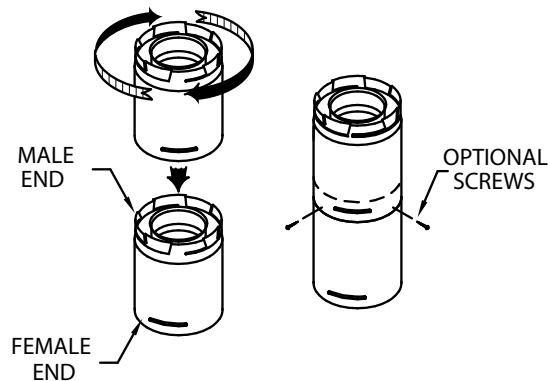
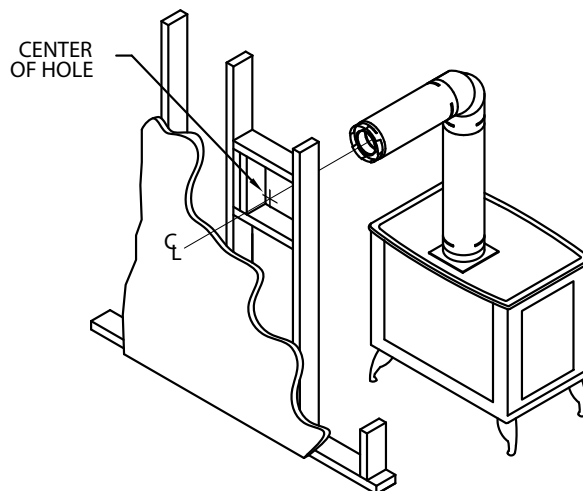

Figure 5
Figure 6
(1) Twist-lock procedure: Line up locking lugs on male and female ends of pipe sections. Insert the male end of pipe into the female end until the locking lugs are covered. Twist the female end clockwise an eighth of a turn to lock sections together (**Fig. 5**). Screws are not required to secure the joint, but are acceptable provided they do not penetrate the inner wall of the vent pipe.
(2) Horizontal runs of vent pipe must be supported to prevent any downward sags. Horizontal pipe sections should be supported at least every 4-feet. Wall Straps can be used for this purpose. Alternatively, plumbers tape or other suitable noncombustible material can be used to support the vent pipe.
(3) DirectVent Pro venting requires no sealant, unless specifically required by appliance manufacturer.
Step 3. With the Appliance Adaptor and Pipe Section attached to the appliance, slide the appliance into its correct location, and mark the wall for a square hole of the appropriate size. Refer to **Table 1, page 8** for the correct size square opening unless otherwise specified by the appliance manufacturer's clearance requirements. The centerline of the pipe should line up with the center of the square hole (**Fig. 6**). Cut and frame the square hole in the exterior wall where the vent will be terminated. A Wall Thimble or Wall Firestop may be required by the appliance manufacturer as additional thermal protection for the wall. If the